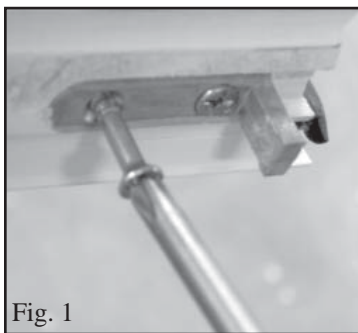

Fig. 1
- See Fig. 1. Remove Pivot Pins